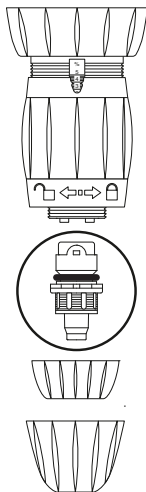

Fig. 17
- Re-assemble the components in the order and the plan position (Fig. 17 and 18).